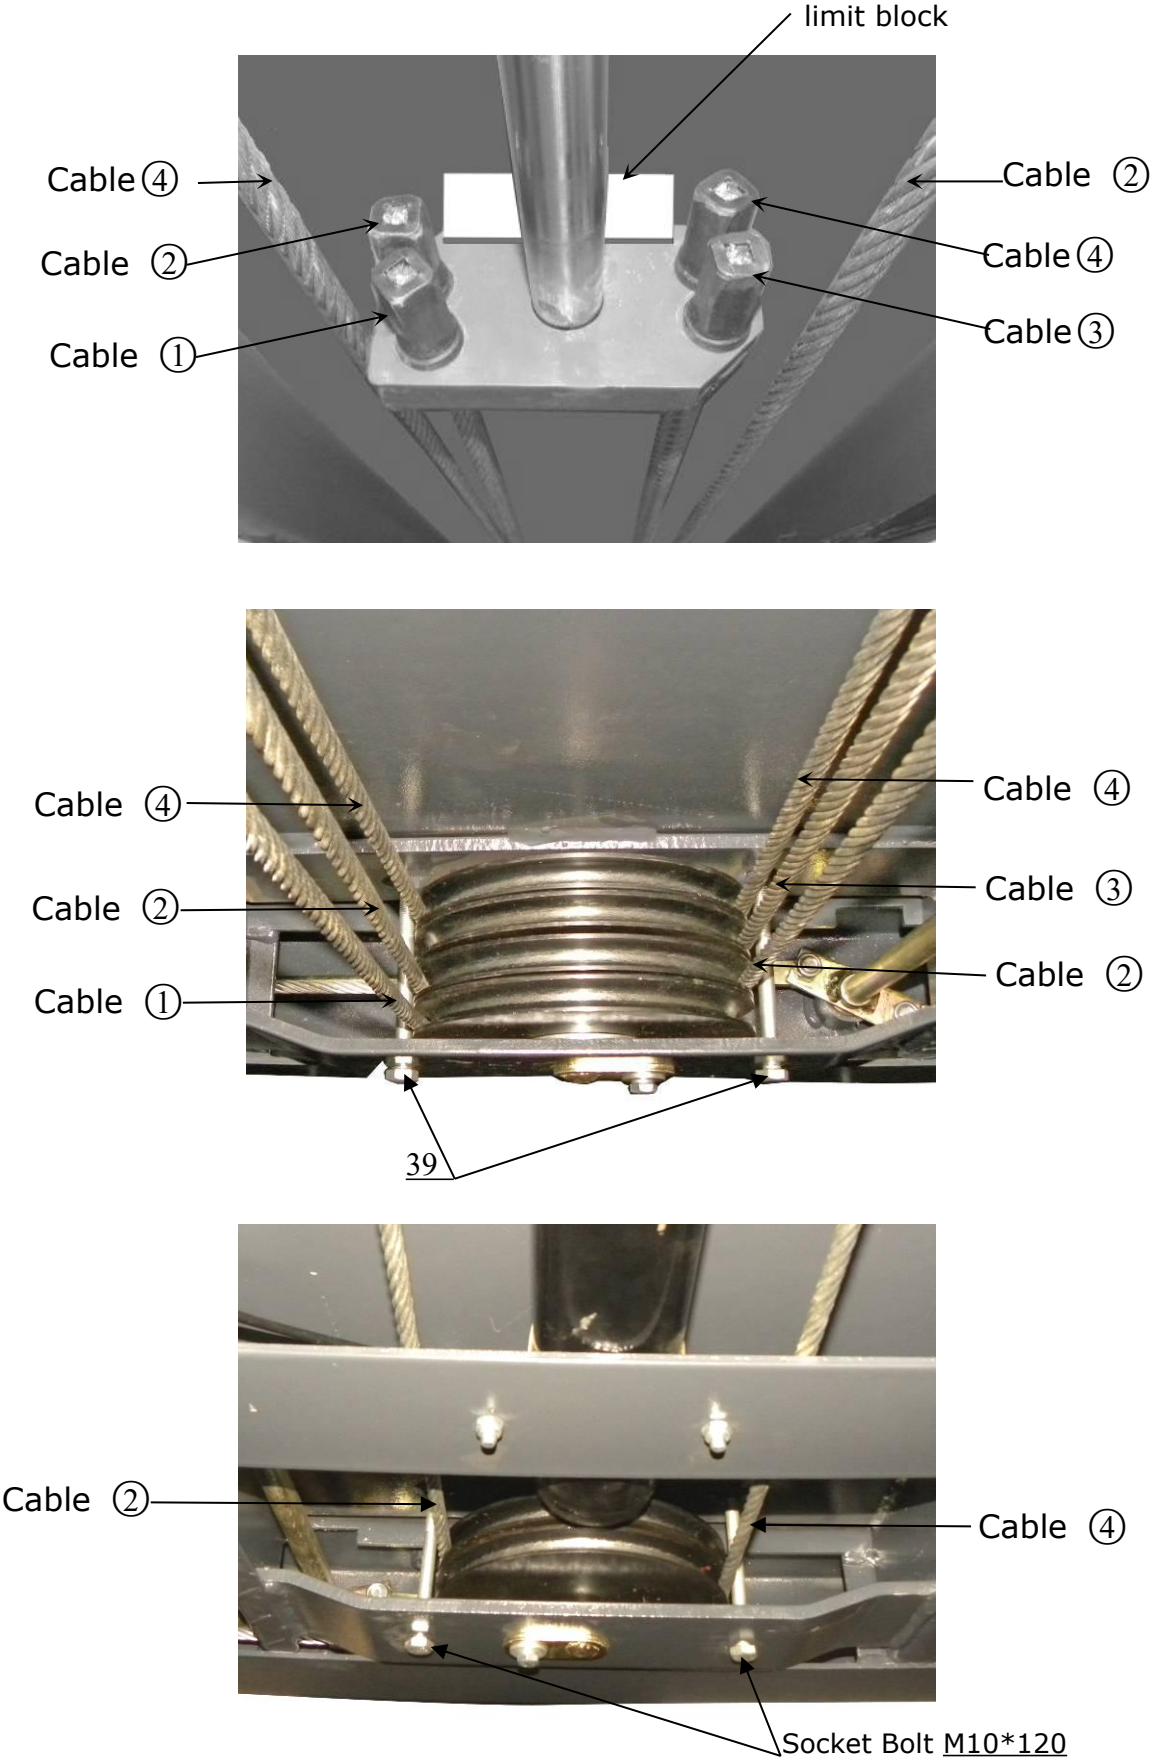

Fig.22
3. Illustration for cables under platform . (See Fig. 22)